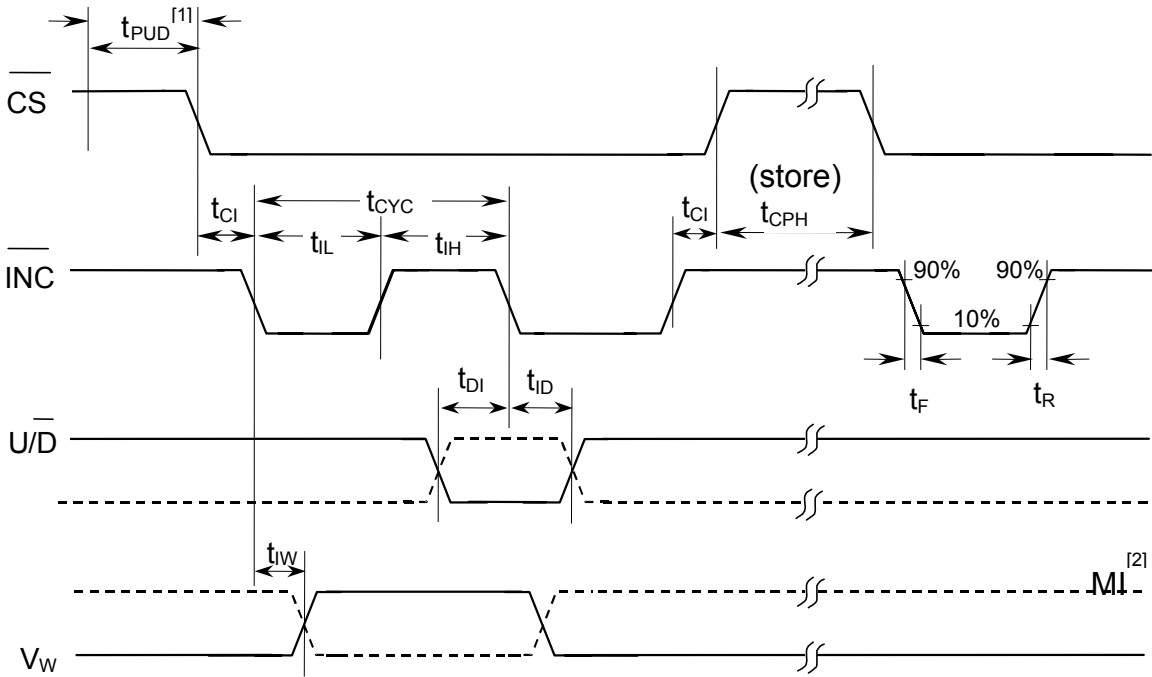

FIGURE 3 –WMS7170/1 TIMING DIAGRAM
- [2] MI in the AC Timing diagram (Figure 3) refers to the minimum incremental change in the wiper output due to a change in the wiper position.